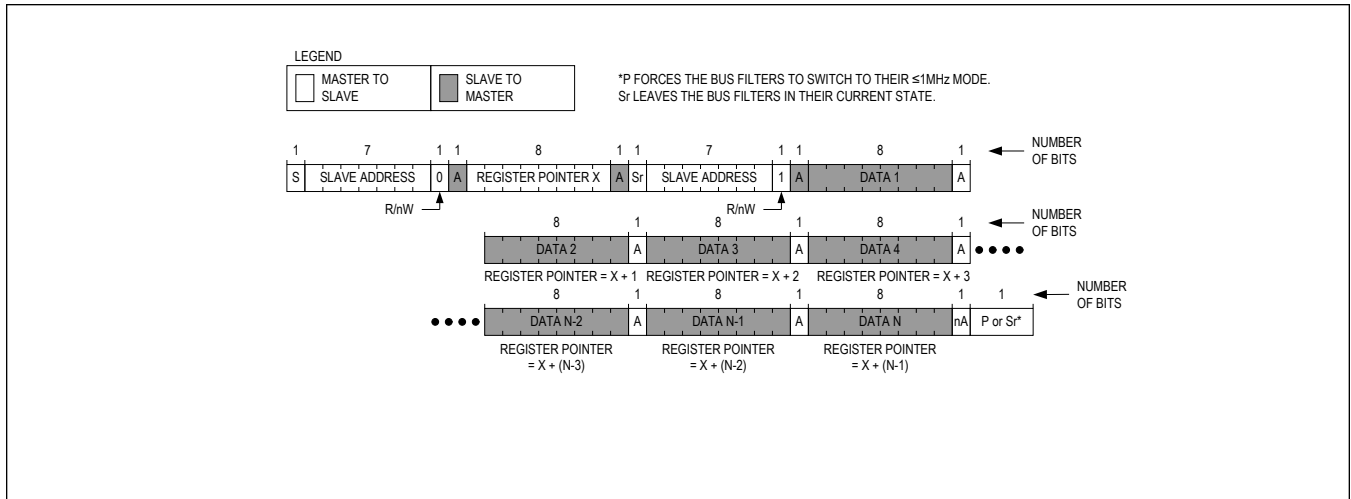

Figure 9. Reading from Sequential Registers
Figure 9 shows the protocol for reading from sequential registers. This protocol is similar to the "Read Byte" protocol except the master issues an ACKNOWLEDGE (A) to signal the slave that it wants more data—when the master has all the data it requires, it issues a NOT-ACKNOWLEDGE (nA) and a STOP (P) to end the transmission.